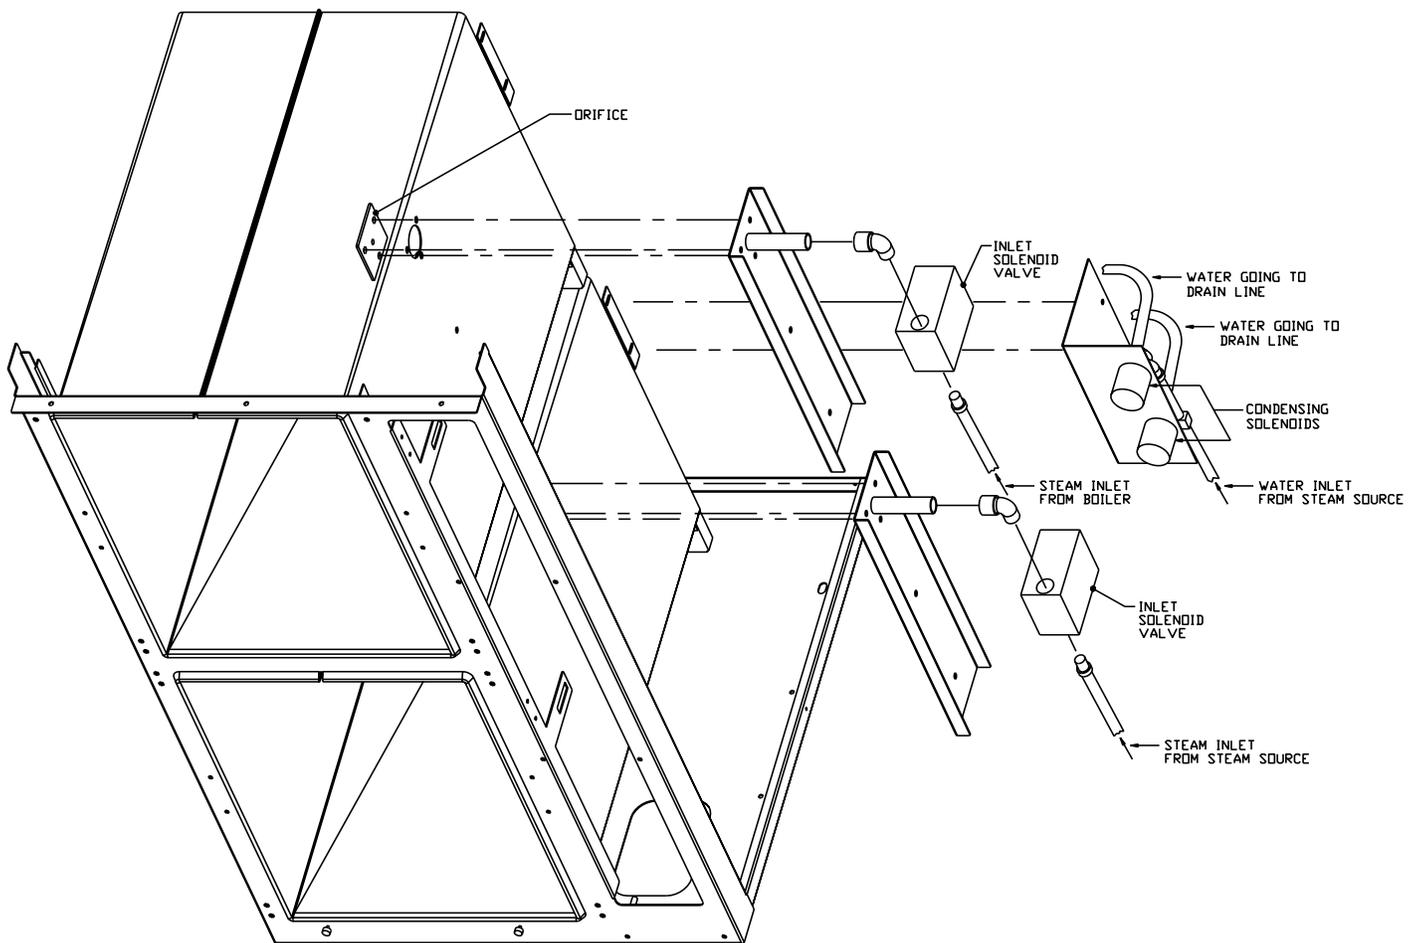

Fig. 2 Pictorial Diagram, Steam and Water Circuits
these circuits is shown in Fig. 2 on page 5.
NOTE: Fig. 2 is strictly a pictorial schematic diagram and is not intended to show the actual configuration of the plumbing. All components are shown in correct relationship with each other. However, the diagram does not show their actual locations or position within the cooker.
2. Disconnect all five wires from timer terminals. (see Fig. 2, page 11).
7. Remove ohmmeter and replace all five leads on timer terminals as shown in Fig. 2 on page 11.
5. Remove the ohmmeter and replace the leads on switch terminals (*see Fig. 2, page 11*).